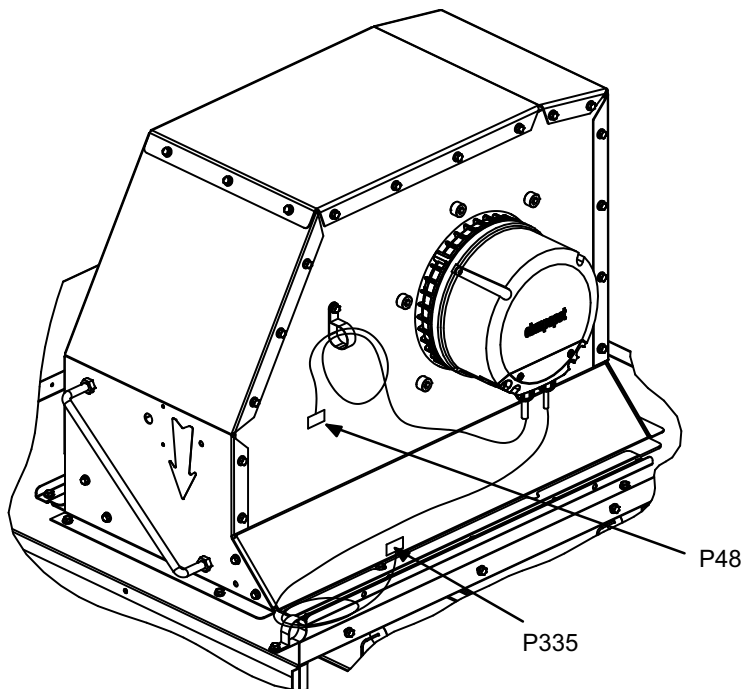

FIGURE 4
- 10- Uncoil P48 and J335 wiring harnesses secured to replacement blower housing. See figure 4.